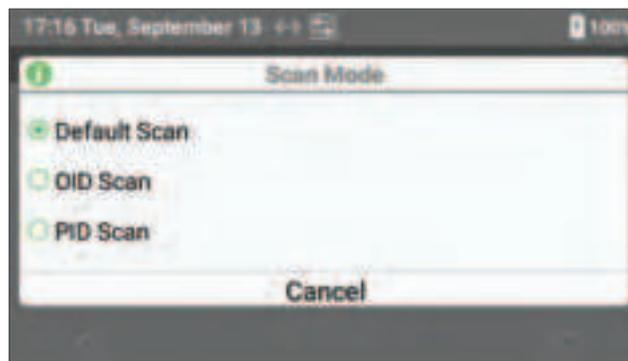

Figure 41: Scan Mode
- 4 In the **Scan Mode** dialog box (Figure 41), select the appropriate option: